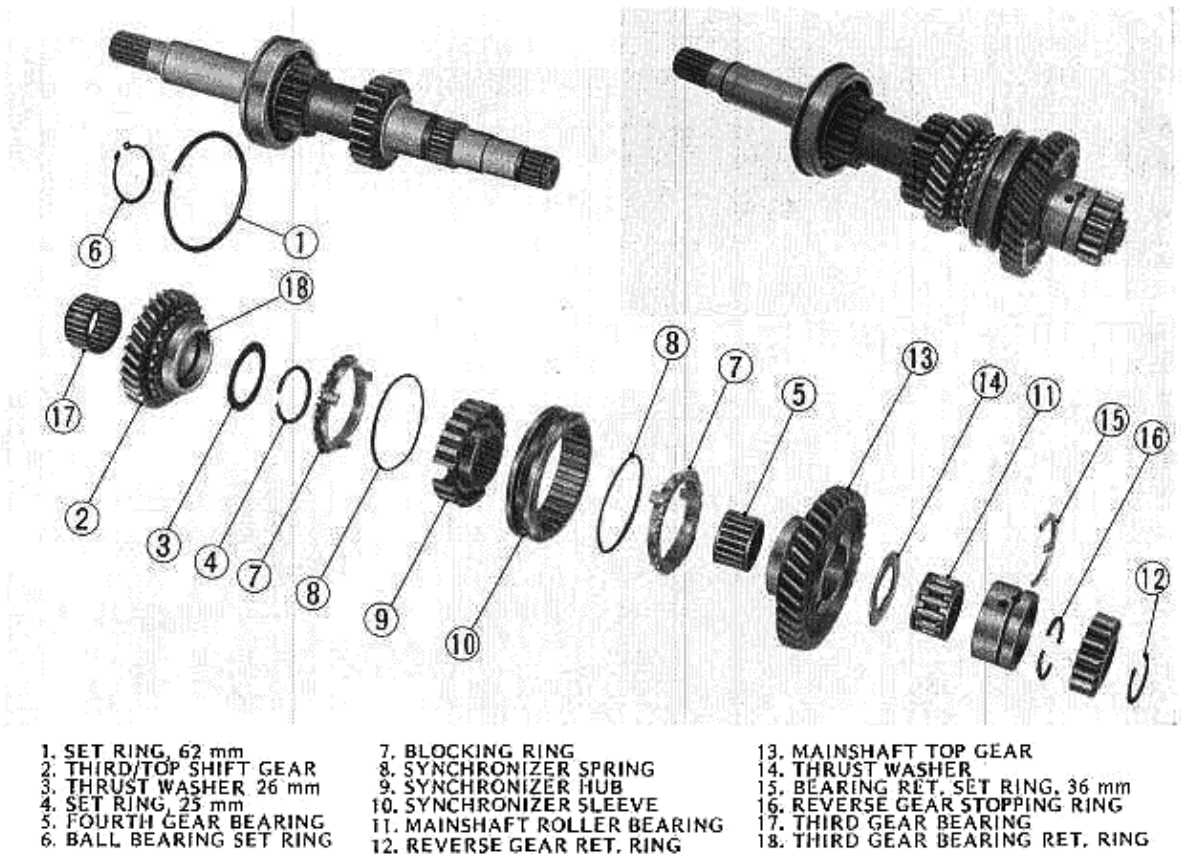

Fig. 6-2 Mainshaft
8. To assemble the mainshaft, reverse the disassembly procedure and use Fig. 6-2 as reference.